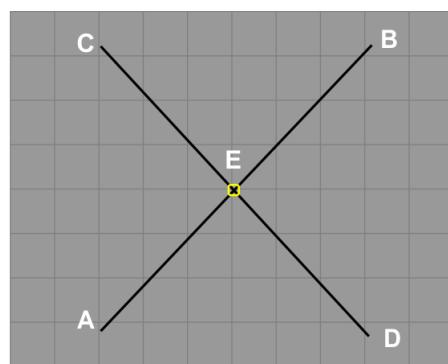

Figure 17. Modification of lines.
1. **Split:** Split tool is used to break the lines or objects at intersection points. Let's take an example shown in Figure 17. Lines AB and CD are intersecting at point E, but they are not broken at E. In order to split these lines at E:
2. **Trim:** This tool is used to trim the offset lines. For example, if AB and CD are two lines and you do not want the BE or AE part of the line AB in Figure 17, you can use **Trim** tool.